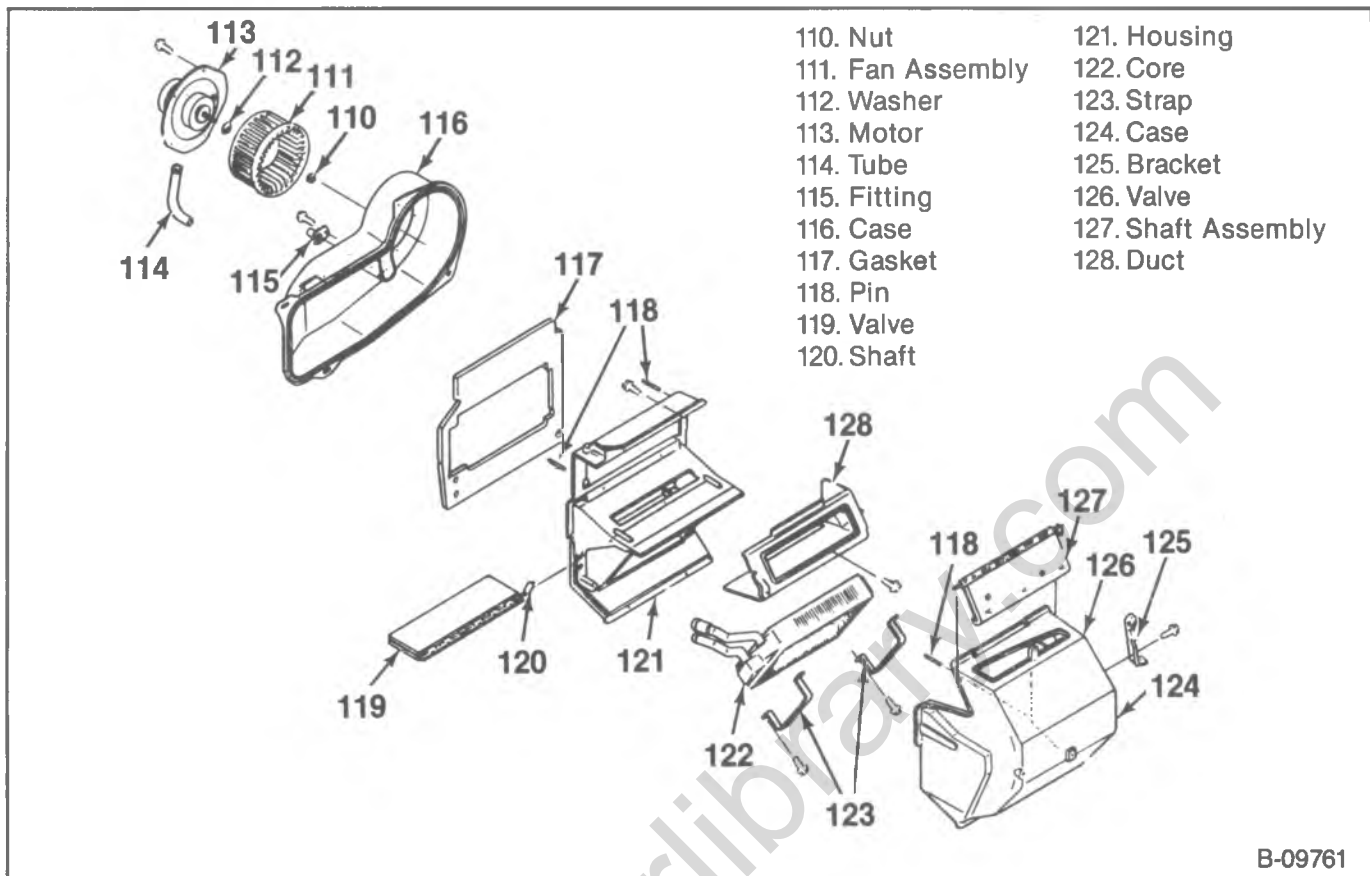

Figure 19—Blower Motor Assembly Component View
↔ Remove or Disconnect (Figure 19)
6. Motor (113) and fan (111) assembly (figure 19).
7. Nut (110).
8. Fan (111) from the motor (113).
→ Install or Connect (Figure 19)
↔ Remove or Disconnect (Figures 19 through 24)
Install or Connect (Figures 19 through 24)